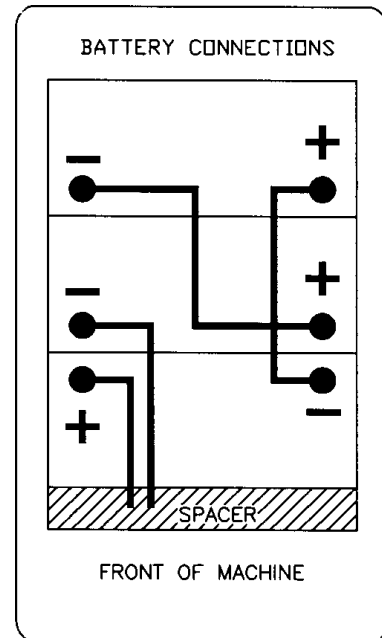

Figure 5
1. Make sure the key switch is in the OFF position (O).
2. Carefully lift the batteries into the battery tray. Arrange as shown in figure 5.
3. Install the battery cables as shown in figure 5, with the terminals marked "P" on the positive battery posts and the terminals marked "N" on the negative battery posts. Position the cables so that the caps can be easily removed when it is necessary to add water to the batteries.